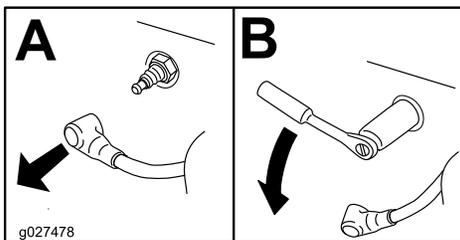

Figure 55
4. Locate and remove the spark plug(s) as shown in Figure 55.